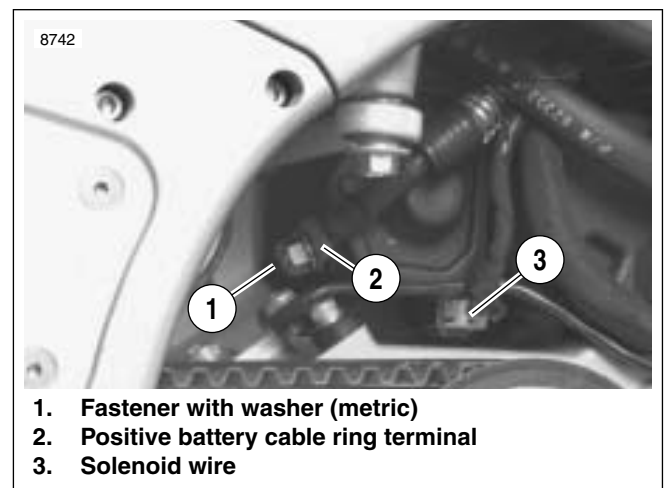

Figure 5-25. Starter Wires (Protective Boot Not Shown)
2. See Figure 5-25. Connect wiring to starter.
- a. Connect solenoid wire (3).
- b. Attach positive battery cable ring terminal (2) to stud with fastener and washer.
- c. Install nut and washer (1) (metric). Tighten nut to 60-85 in-lbs (7-10 Nm).